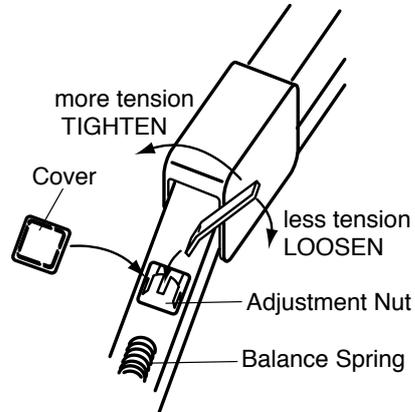

FIGURE 11
2. If either balance arm drifts either higher or lower from the set position, remove the spring adjuster covers and with the supplied wrench adjust the balance arm springs (FIGURE 11).